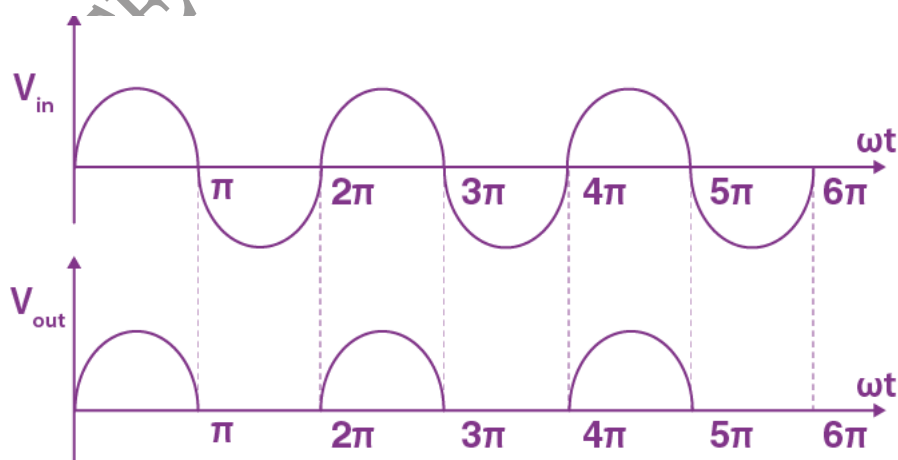

Figure 1.6 The input and output voltage waveform of a half-wave rectifier
- The input and output voltage waveform of a half-wave rectifier is shown in Fig. 1.6.